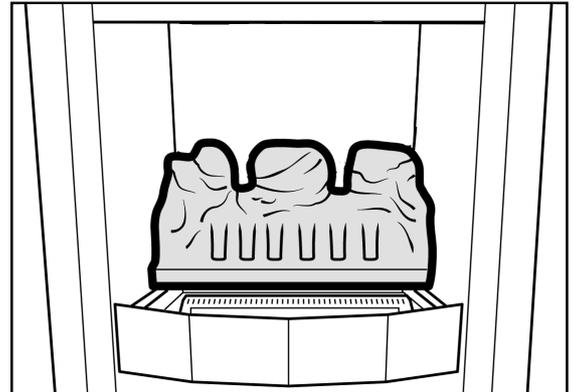

Figure 2 Rear Base Coal Position
1. Place the rear base coal in the firebox. It should rest on the ledges at the sides and back of the firebox and its rear face should touch the firebox rear wall. See figure 2.